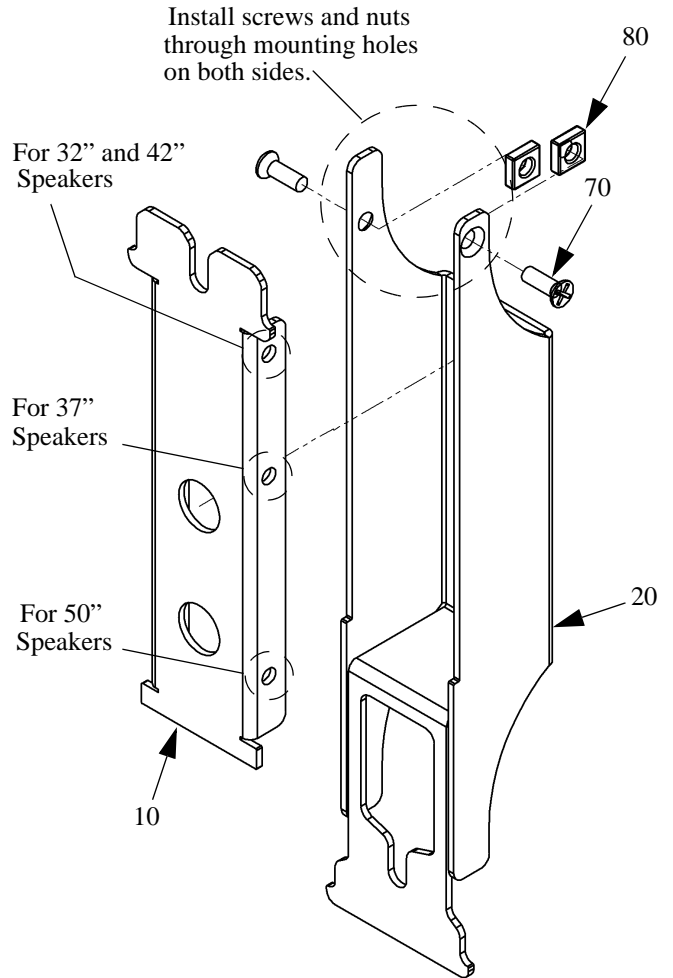

Figure 6: Assemble Speaker Brackets
2. Locate two speaker adjustment brackets (10), two speaker wall brackets (20), four Phillips flat head screws (70), and four square nuts (80). See Figure 6.
3. Depending on the size of your speaker, locate the pair of mounting holes on speaker adjustment bracket (10) for your speaker size.
4. Insert the speaker adjustment bracket (10) in the speaker wall bracket (20) and align the mounting holes.
5. Install two Phillips flat head screws (70), and two square nuts (80) to assemble the brackets (10 and 20) as shown in Figure 6.
6. Repeat Step 4 and Step 5 to assemble the second speaker wall bracket (20).